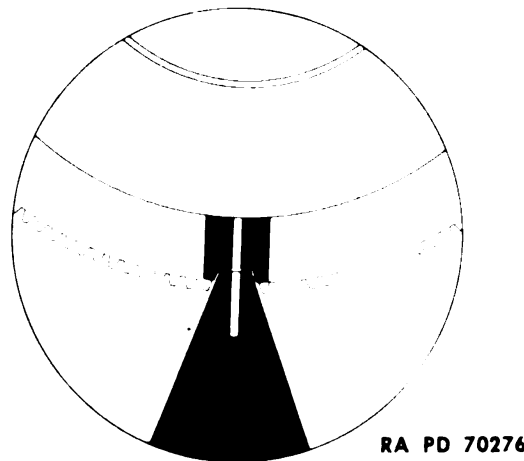

Figure 72 – Zero Deflection Lines in Matching Position
a. Turn the azimuth handwheel until the zero deflection marks on the multiplying mechanism line up (fig. 72); then pull out the rate setting clutch. The rate setting clutch should pull them into line (as determined in subpar. b, below) even if they are set slightly to one side or the other.